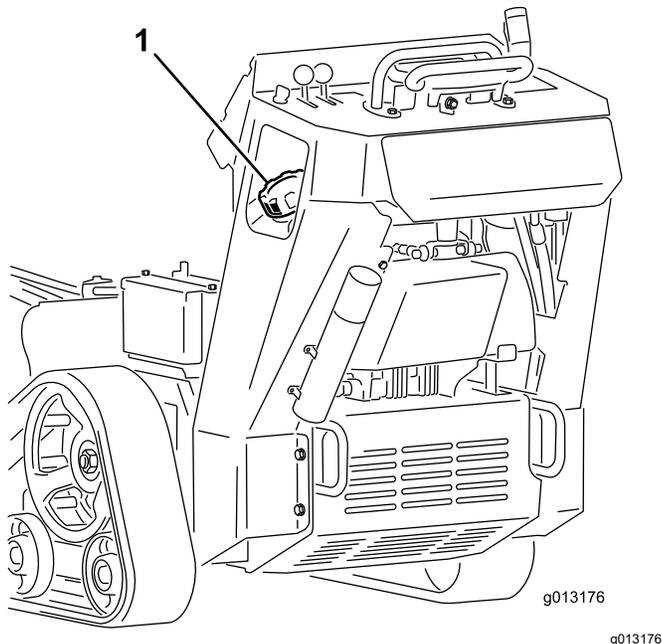

Figure 16
3. Clean around the fuel-tank cap and remove it (Figure 16).